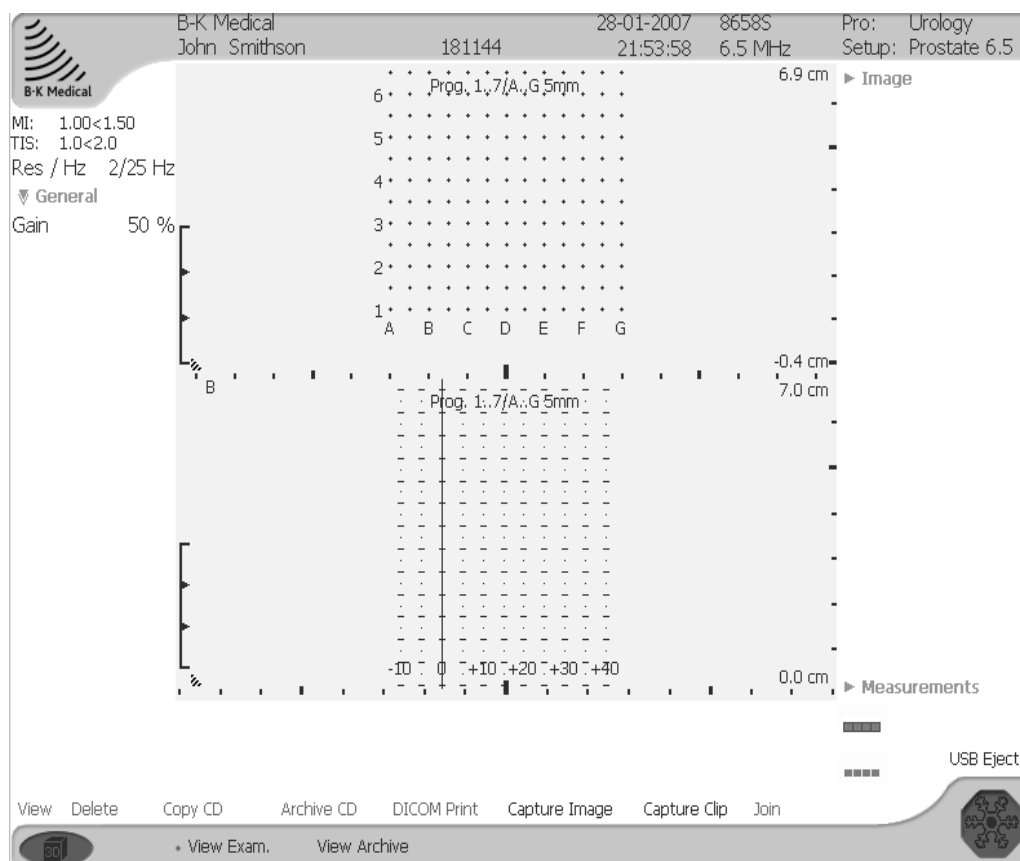

Figure 2-12. A split-screen view with transverse brachy matrix above and sagittal brachy ruler below. Ruler has vertical line to mark 0.
**NOTE:** You can set up the system so that a vertical 0 line is always visible, along with the markers (as shown in Fig 2-12).